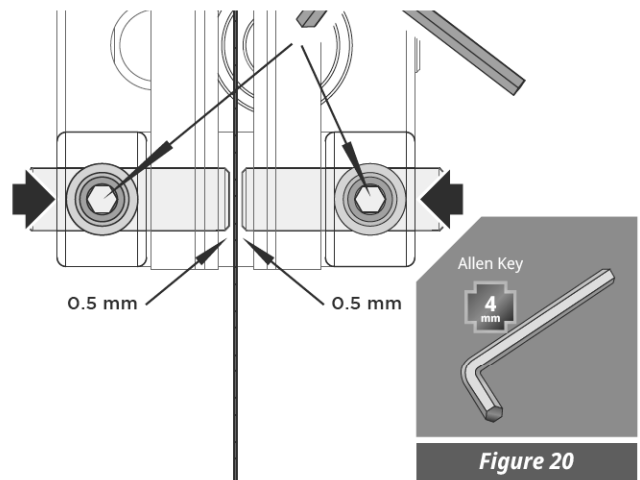

Figure 20
2. Press guide pins together, keep 0.5 mm distance between guide pin and the saw blade. ( See Figure 20 )